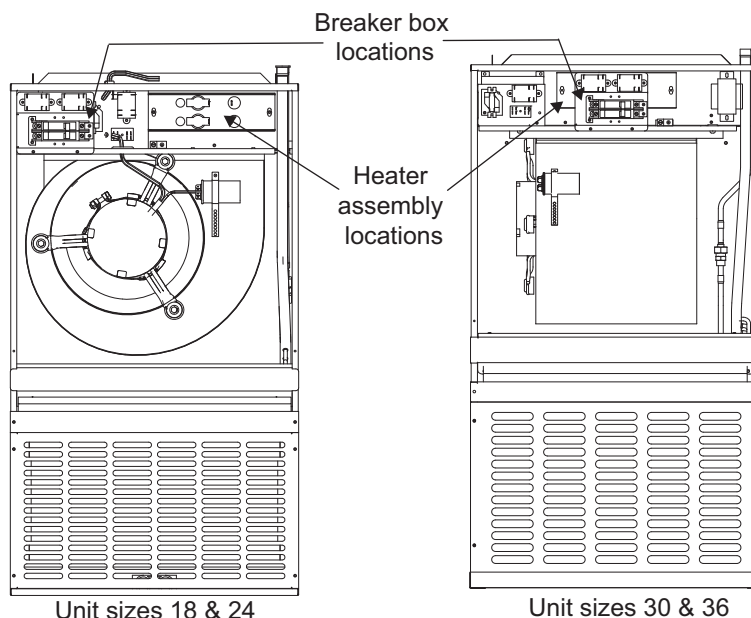

Fig. 1 - Installation Locations for EHK2 Heaters
5. Use the previously removed cover-plate screws to secure the heater assembly. (See Fig. 1) Discard cover plate.